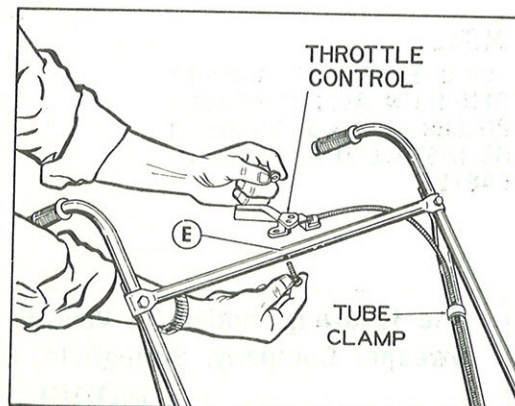

Figure 3
NOTE: The Top Cross brace is provided with offset hole location for Engine Throttle. Assemble with holes closest to right side for the Briggs Engines and to the left side for Kohler Engines. Refer to Fig. 3.
8. Take the throttle lever and run it under the top cross brace; then line it up with the holes in the cross brace as shown in Fig. 3. Should the cable be too long, take the cross brace off and turn it around, then fit the throttle lever on with bolts and nuts. (Ref. 6 and 7, Fig. 7) (See step 3.)